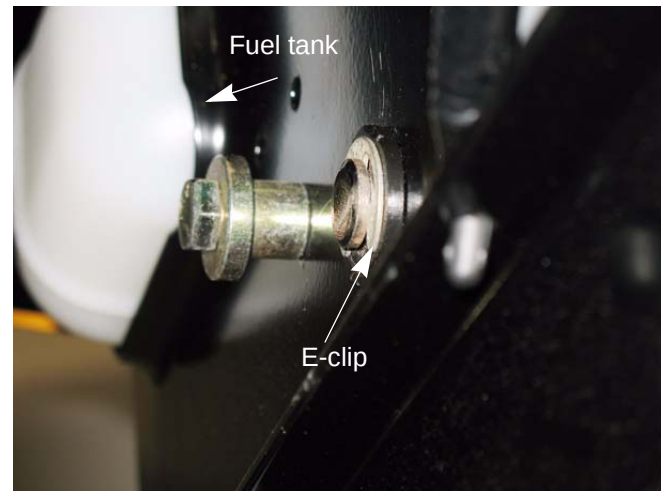

Figure 8.16
2. Remove the E-ring that retains the lift shaft bushing. See Figure 8.16.